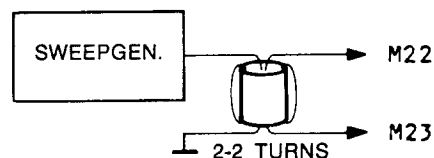

Fig. 2
1. Feed a variable AGC-voltage to pin 2 IM 51 TDA1048 (test point M54). Connect a sweep generator for the IF-signal, to the input M 22 and M 23. Connect an RF-generator as shown in Fig. 2 to get an earthsymmetric input signal.